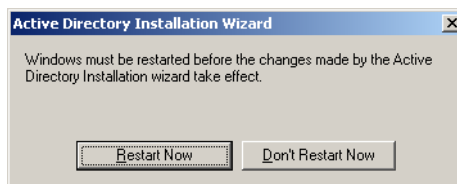

Figure D-20 Restart screen
22. Click the **Restart** button shown in Figure D-20 to reboot the server.